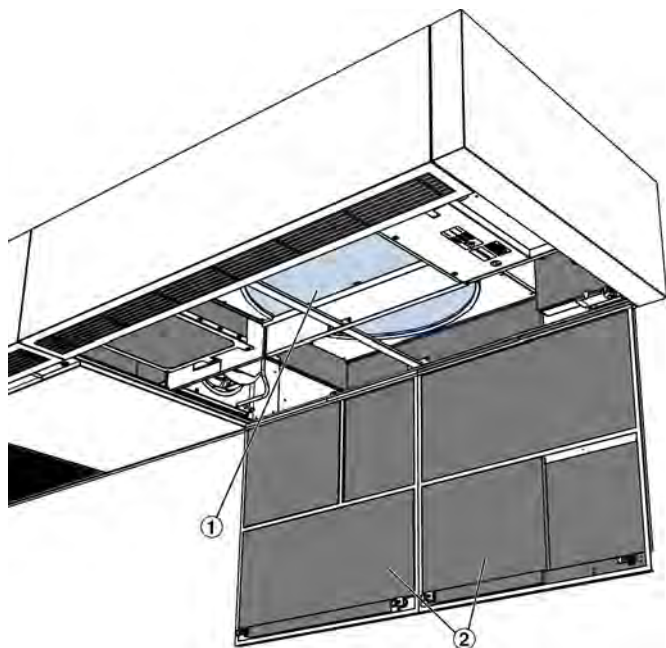

Fig. 87: Rotary heat exchanger, cleaning
- 2. ▶** Open the inspection access panels (Fig. 87 /2) of the ventilation unit ↪ 8.1.2.1 'Opening/closing the inspection access panel' on page 54 .
- 4. ▶** Closing the inspection access panels (Fig. 87 /2) ↪ 8.1.2.1 'Opening/closing the inspection access panel' on page 54 ..